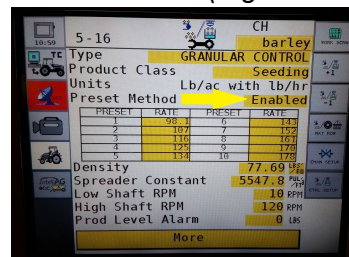

Figure 12
Step 4. Select **Preset Method** (Disabled or Enabled) which is typically set on disabled. Every time you hit plus (+) or minus (-) it goes up or down by the set percentage (%). Disabled mode gives you a target rate, a max rate and a min rate. (Figures 12 & 13)